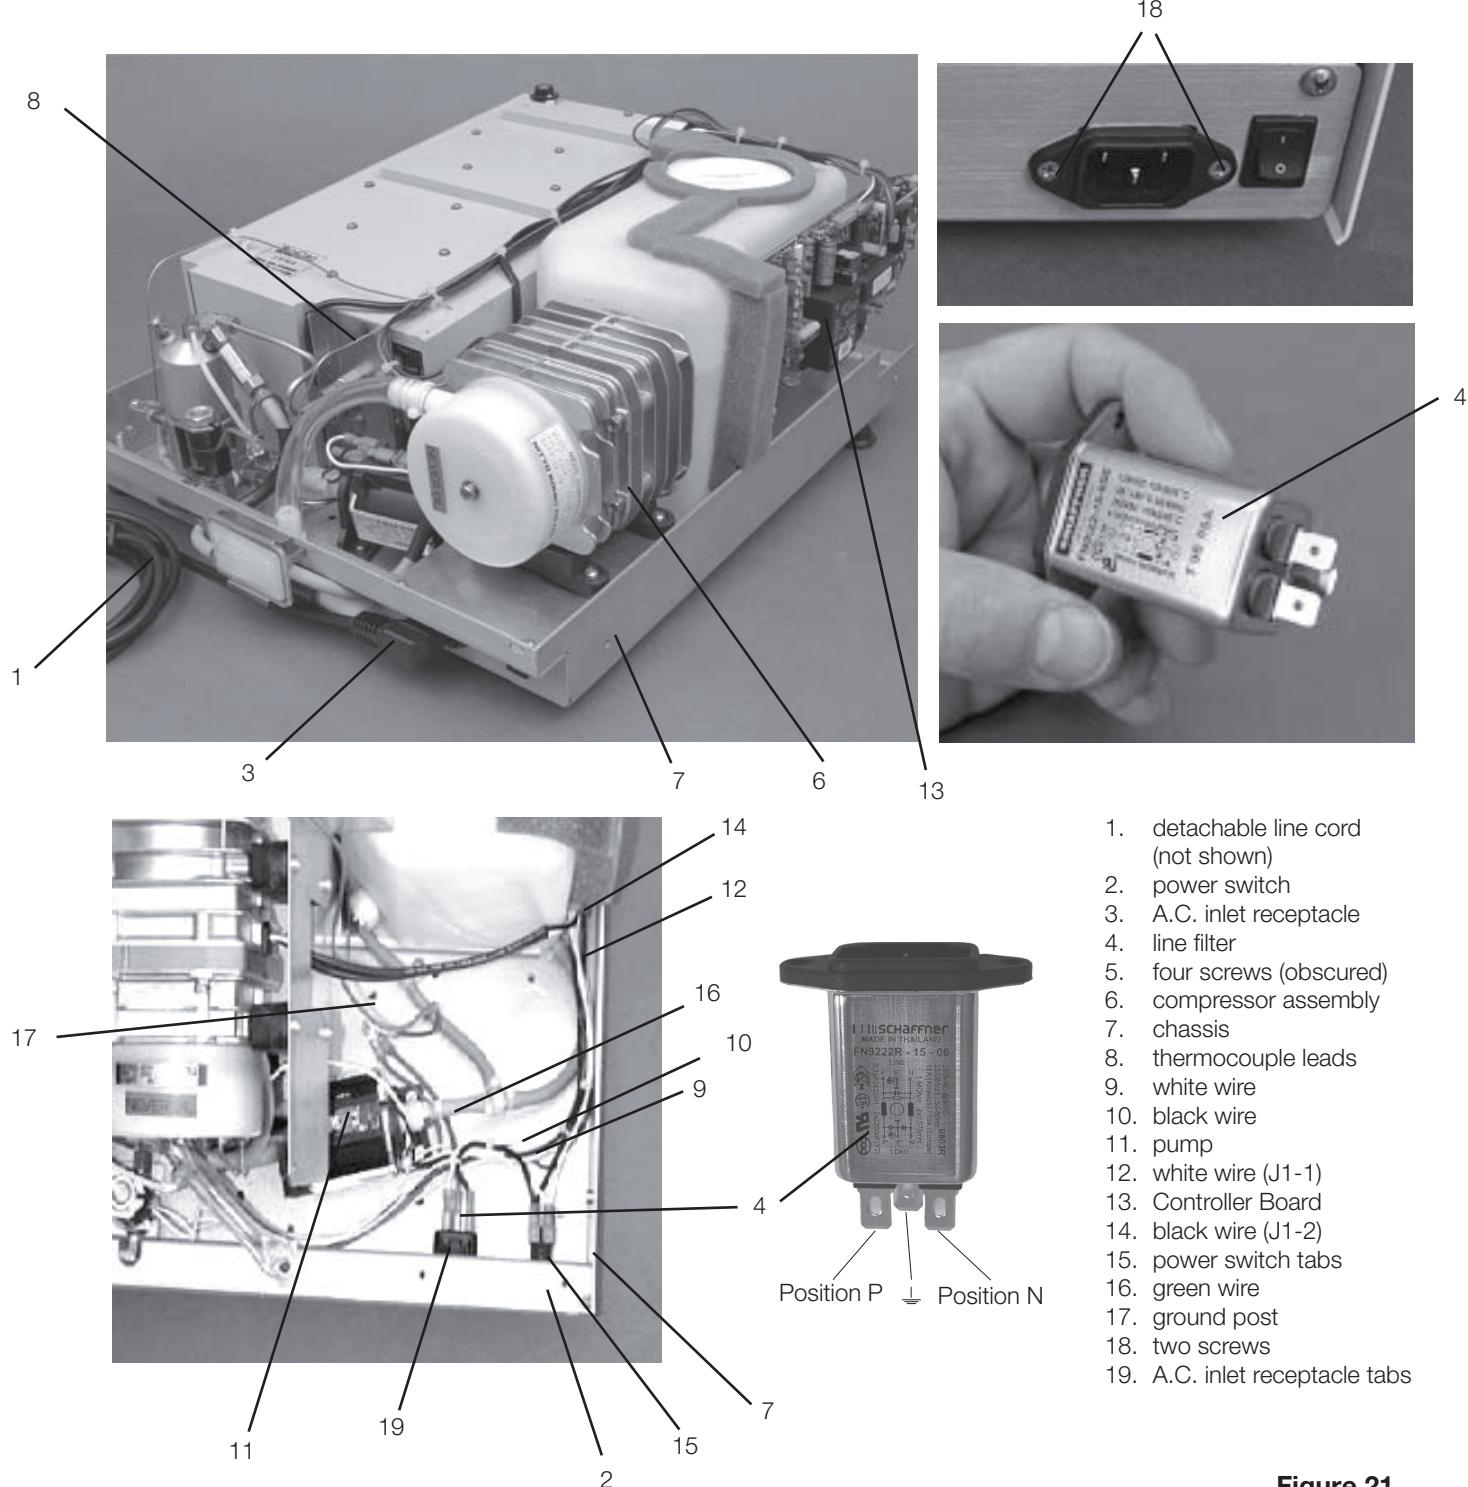

Figure 21
To remove the power switch (2), proceed as follows, (See Figure 21):
To replace the power switch (2), follow these steps, (See Figure 21):
1. From a position at the rear of the unit, orient spade terminals 1a and 2a downwards and press the power switch into the clearance hole in the chassis (7). Apply pressure evenly top and bottom until the bezel rests against the chassis wall.
2. Connect the white wire (12) extending from Controller Board (13) terminal J1-1 to the lower right-hand power switch spade terminal labelled 1a and the black (14) wire extending from Controller Board terminal J1-2 to the lower left-hand power switch spade terminal, labelled 2a.
3. Connect the white wire (9) from the line filter (3) or the A.C. inlet receptacle (4) to the upper right-hand power spade terminal labelled 1, and the black wire (10) from either the attached power cord or the A.C. inlet receptacle to the upper left-hand spade terminal labelled 2, nearest the pump (11).
4. Reinstall the compressor assembly (6) using the four screws (5) retained from disassembly. Do not bend the thermocouple leads (7).
To remove a line filter (3), proceed as follows, (See Figure 21):
1. Turn the power switch (2) OFF, and unplug the power cord (1) from the wall outlet.
3. Remove the four screws (5) holding the compressor assembly (6) to the chassis (7) and rest the compressor to one side. Do not bend the thermocouple leads (8). See, Compressor.
5. Remove the screws (18) holding the filter to the chassis (7) and remove the filter.
To replace/refit a line filter (4), proceed as follows, (See Figure 21):
1. Insert the line filter in the opening in the chassis (7). The P and N fast-on spade terminals should face up, and the ground terminal should face down.
2. Insert and tighten the screws (18) holding the line filter, using Loctite in the threaded holes in the chassis.
6. Reinstall the compressor assembly (6) using the four screws (5) retained from disassembly. Do not bend the thermocouple leads (7). See, Compressor.